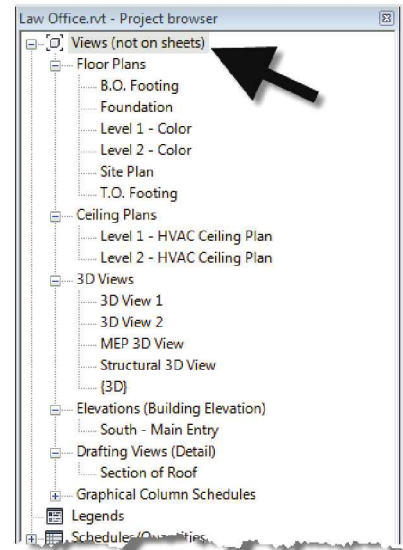

FIGURE 16-1.14
32. Notice the list in the *Project Browser* is now smaller. (See Figure 16-1.14 on page 16-11.)